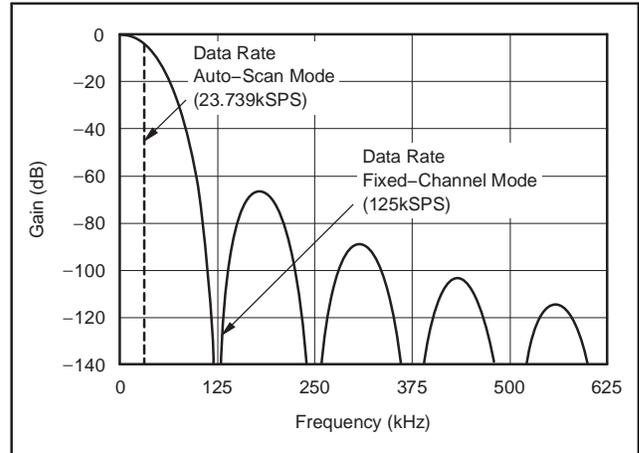
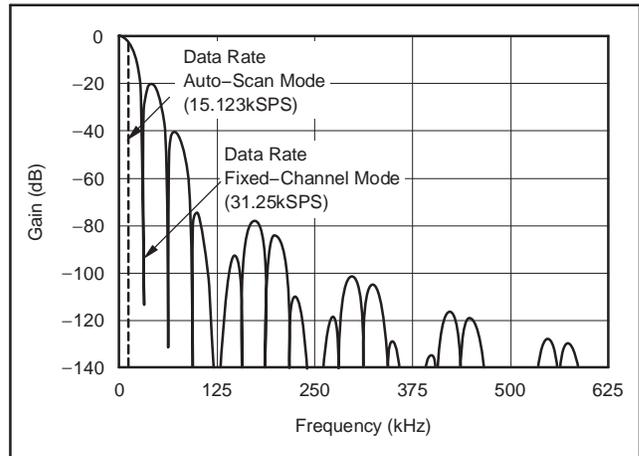

Figure 43. Frequency Response, DRATE[1:0] = 11
Figure 44. Frequency Response, DRATE[1:0] = 10
The low-pass filter has notches (or zeros) at the data output rate and multiples thereof. The sinc⁵ part of the filter produces wide notches at $f_{CLK}/128$ and multiples thereof. At these frequencies, the filter has zero gain. Figure 43 shows the response with no post averaging. Note that in Auto-Scan mode, the data rate is reduced while retaining the same frequency response as in Fixed-Channel mode.
Figure 44 shows the response with averaging set to 4 (DRATE[1:0] = 10). 4-reading, post-averaging produces three equally-spaced notches between each main notch of the sinc⁵ filter. The frequency response of DRATE[1:0] = 01 and 00 follows a similar pattern, but with 15 and 63 equally-spaced notches between the main sinc⁵ notches, respectively.
(1) f_{CLK} = 16 MHz, Chop = 0, and Delay = 0.
(2) Num_Ave is the number of averages performed by the digital filter second stage.
(3) In Auto-Scan mode, the data rate listed is for a single channel; the effective data rate for multiple channels (on a per-channel basis) is the value shown in Figure 43 and Figure 44 divided by the number of active channels in a scan loop.
Referring to Figure 43 and Figure 44, frequencies present on the analog input above the Nyquist rate (sample rate/2) are first attenuated by the digital filter and then alias into the passband.